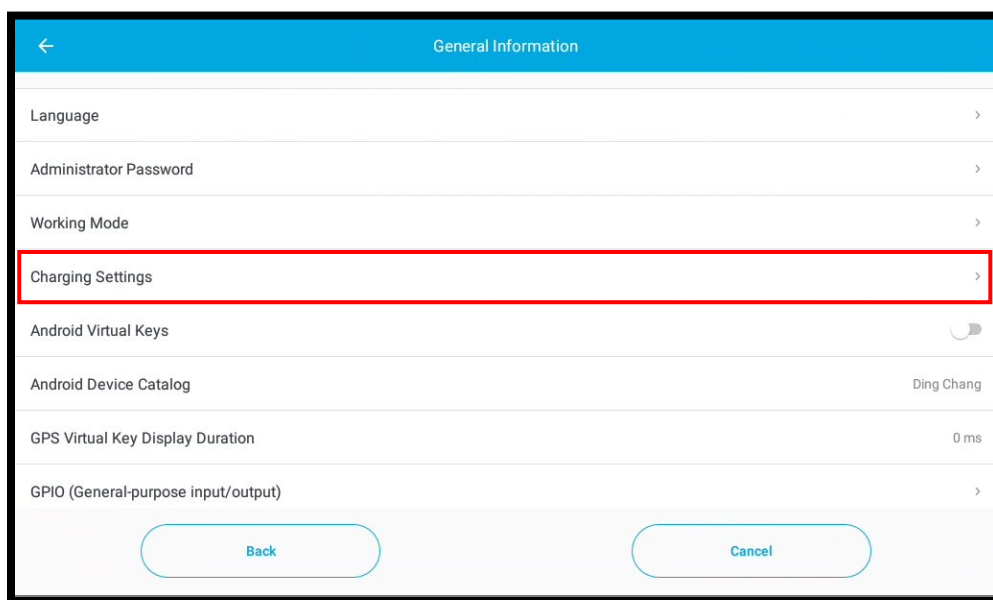

Figure 3.11 Select "Charging Settings"
- 1) In **General Information** section of **Administrator Settings** menu (see **steps 1 to 3** in Section 3.3 above), select **"Charging Settings"** (Figure 3.11).